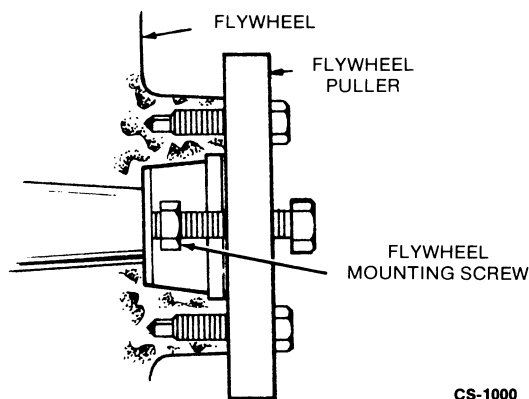

FIGURE 25. BLOWER WHEEL PULLEY
2. Install a puller bar on the flywheel as shown in Figure 25.